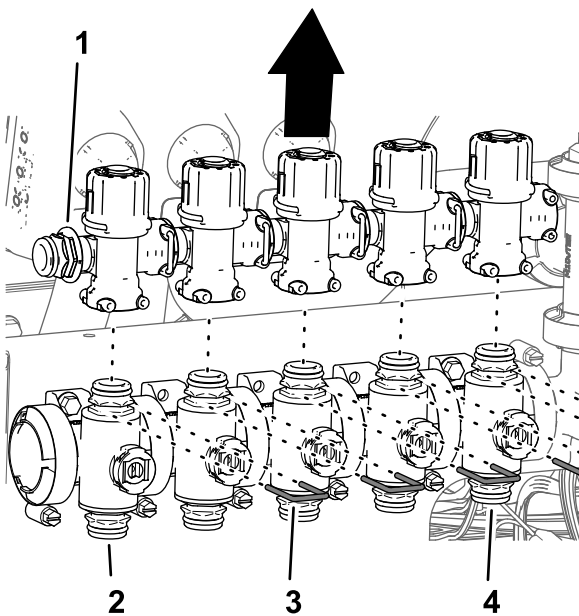

Figure 100
4. Remove the retainers that secure the bypass valves to nozzle valves 1 through 7 (**Figure 100**).
5. Lift the bypass valves from the nozzle valves 1 through 5 (**Figure 100**).